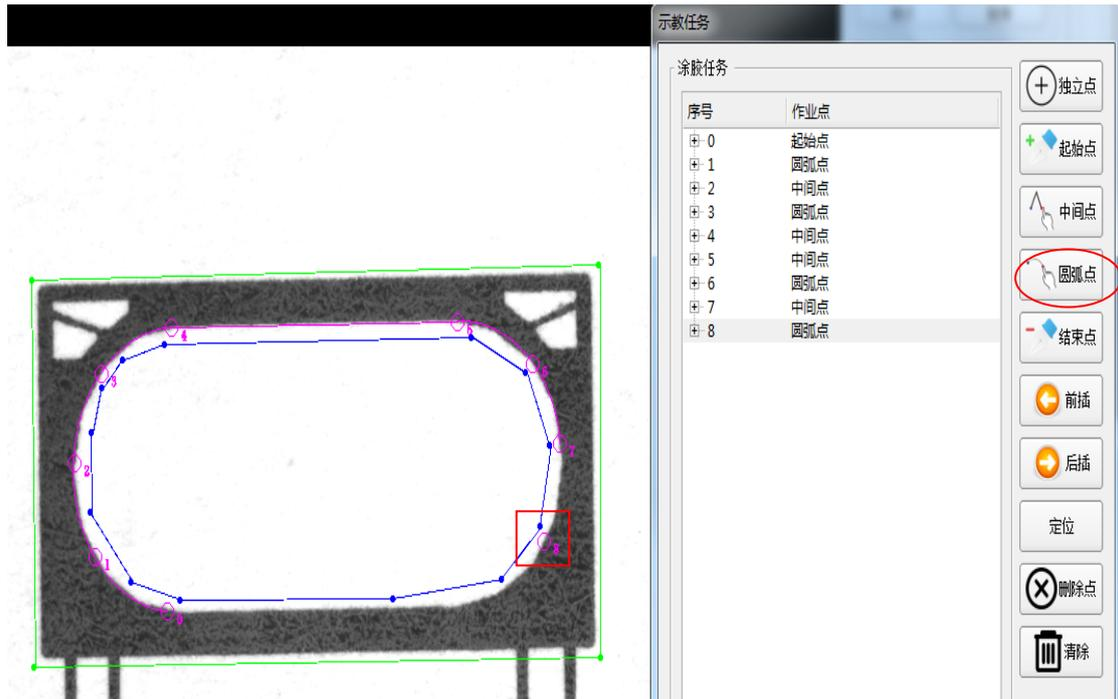

Figure 37 Arc point adding
9) Add the arc point on the position of 45 degree after the middle point, the arc point is as shown in figure 37;